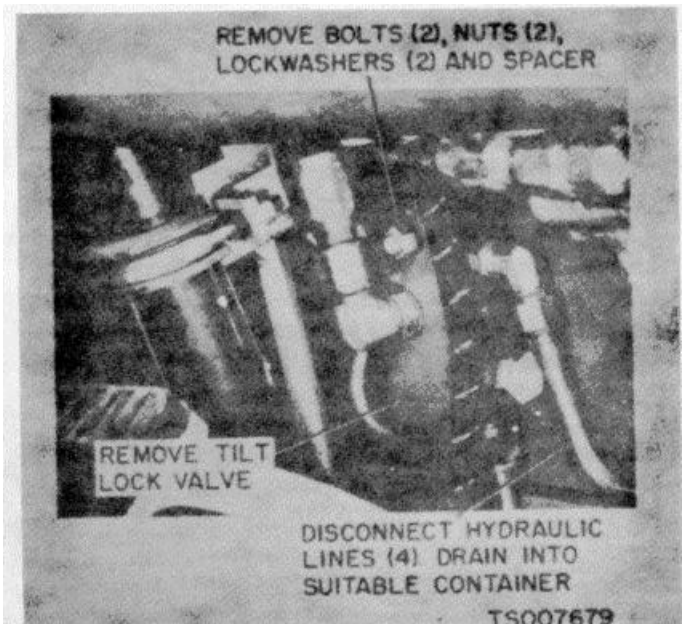
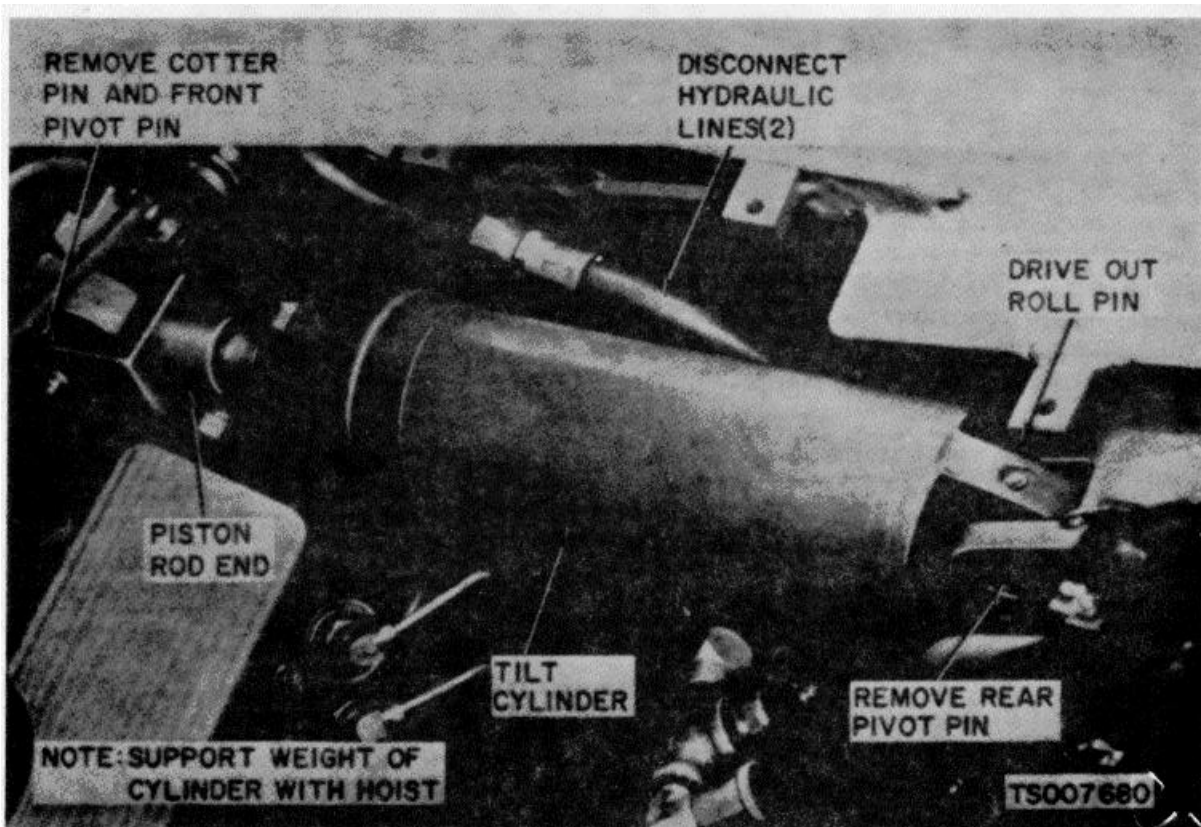

Figure 4-6. Tilt-Lock Valve, Removal and Installation
Figure 4-7. Tilt Cylinder, Removal and Installation
*a. Removal.* Remove the tilt-lock valve as shown in figure 4-6.
- (1) Clean the tilt-lock valve with a cloth dampened with dry cleaning solvent P-D-680.
- (2) Inspect the valve body for cracks, signs of leaking, and other damage.
- (3) Inspect the inlet and outlet ports for obstructions and for damaged threads.
- (4) Replace a defective valve.
*c. Installation.* Install the tilt-lock valve as shown in figure 4-6.
- (1) Lower the carriage to the floor. Secure the mast to the overhead guard to prevent the mast from tipping when hydraulic pressure is relieved.
- (2) Remove the floor plate.
- (3) Place a drain pan under the tilt cylinder. Disconnect the two hydraulic hoses from the tilt cylinder and allow the cylinder and hoses to drain.
- (4) Remove the tilt cylinder as shown in figure 4-7.
(1) Install the tilt cylinder as shown in figure 4-7.
(2) With the engine at fast idle, operate the tilt lever until mast is tilted fully to the rear.
(3) Check degree of rear tilt; this should not exceed 10°. If degree of tilt is not 10°, reposition front rod end to obtain 10°back tilt.
(4) Visually check to see that both sides of mast move back and forth the same distance.